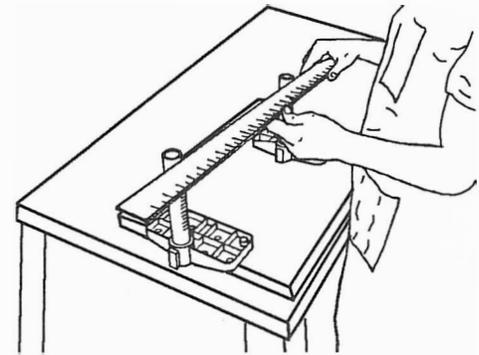
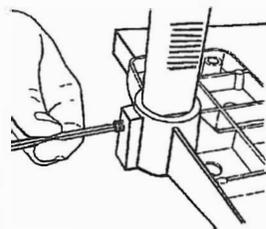

Fig. A-20
Fig. A-21
**18.** Use a straightedge to align the flat sides of the posts, as seen in Fig. A-20. When aligned, use a  $5/32$ " Allen wrench to tighten the set-screw in the side of each support, as demonstrated in Figs. A-21 and A-22.